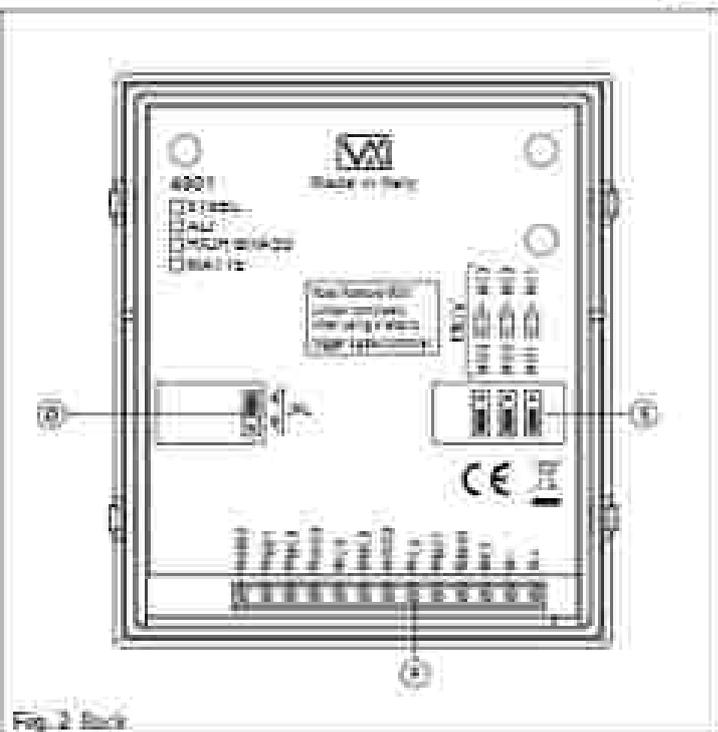

Fig. 2 Back
The jumper JPL (Fig. 2, ①) is used to adjust the brightness and determine the operation of the backlit buttons. There are four brightness settings for the backlit buttons and two programming modes (Mode 1 and 2) for the jumper.